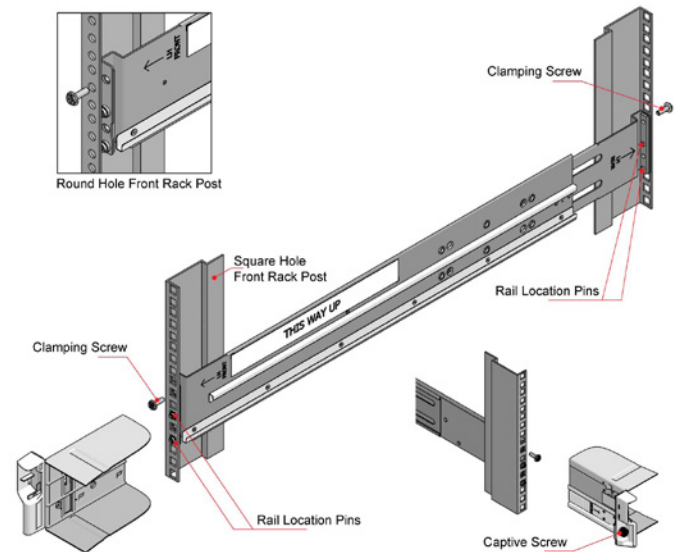

Fig. 18 - Securing Brackets to Rack
3. Locate the rail location pins inside the front of the rack post (see Fig. 18). (The rail location pins are pre-assembled to suit square hole or round hole racks. These pins should not be removed.)
6. Install the front and rear clamping screws, marked (3) in Fig. 18. There are 4 screws in total – left and right sides, front and rear. The screws should be left loose enough to allow the rail to move sideways in its slots.